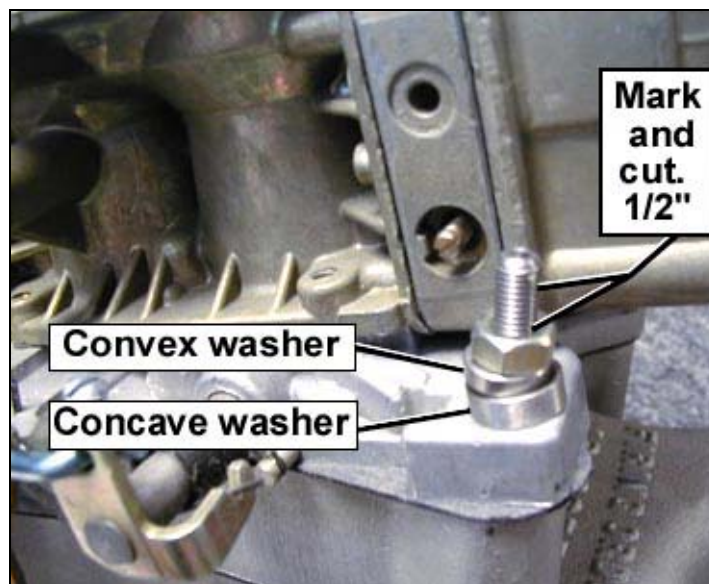

Figure 4
6. As shown in Figure 4, the wedge washers have been installed (2 washers per stud). Place the convex washer into the concave washer. Notice that the washers will move smoothly, until you tighten them down. This will provide you with a level surface when installing your hold-down nuts.
7. Install and hand-tighten the hold-down nuts. Once the nuts have been hand-tightened, place a ruler next to the stud, letting it rest on the top of the nut. Mark the bolt with a suitable marker about a 1/2 inch above the bolt. See Figure 4.